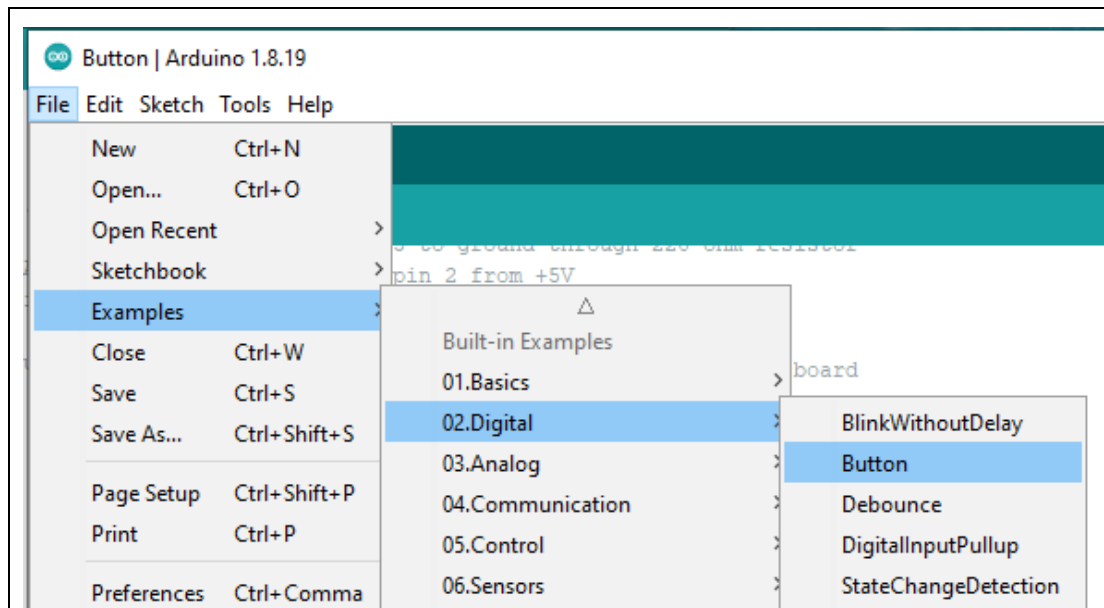

Figure-3.1. Open official example 'Button'
1. Open another official example 'Button'. Select 'File' 'Examples' '02.Ditigal' 'Button'. (Figure-3.1).